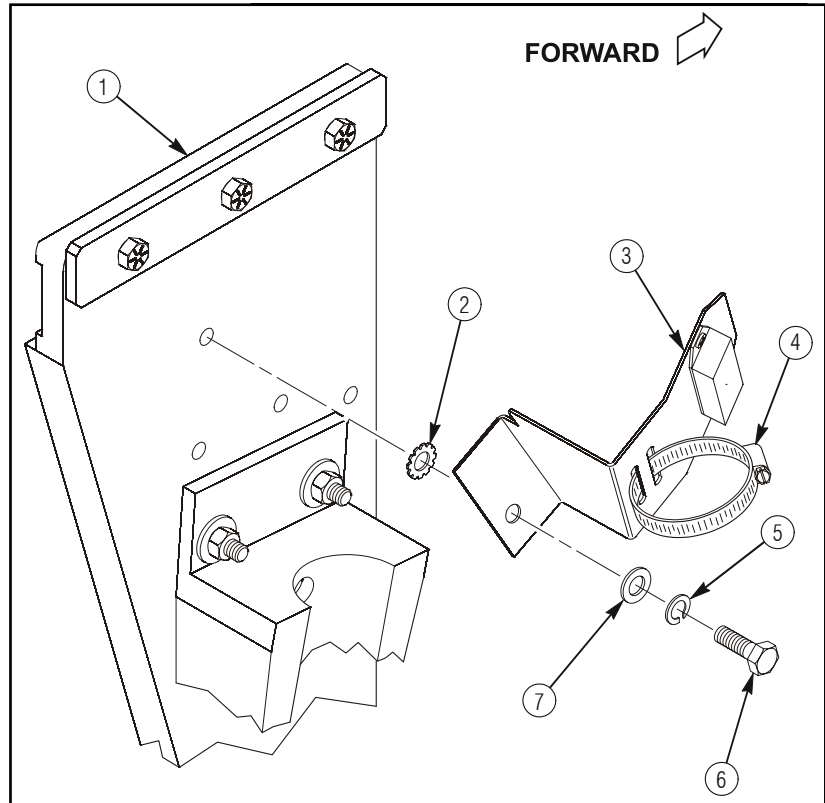

Figure 16.
33. Secure left fire sensor bracket (3) to left B-pillar plate (1) with 6430528-05M1 serrated lockwasher (2), 4397005-013 washer (7), 4397004-007 lockwasher (5), and 4397000-034 capscrew (6) as shown in figure 16. Tighten capscrew (6) to 21 lb-ft (28.5 N·m), and secure clamp (4).